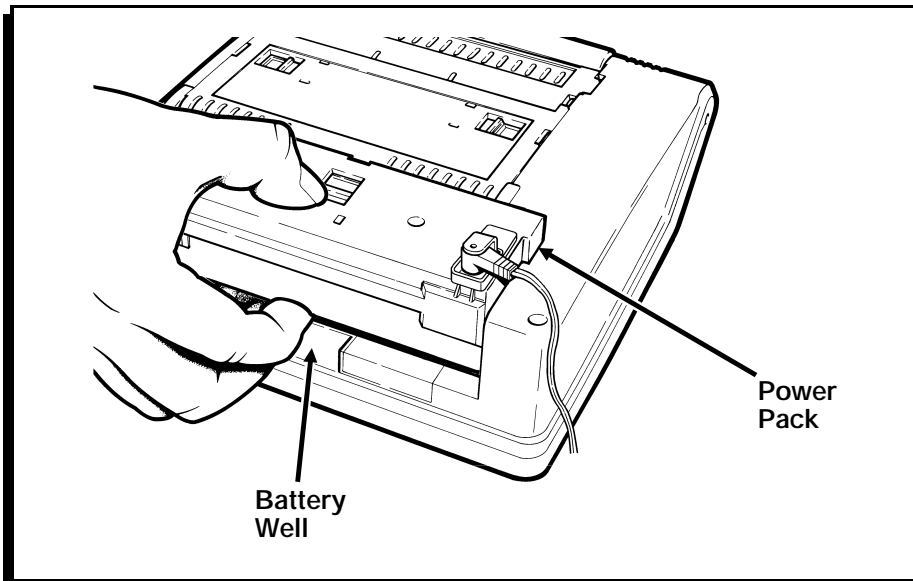

Figure 18
2. The power packs for the printers are attached to the Station's top shelf. Insert the tabs on the power pack into the slots of the battery well in the base of the printer. Push down until the latch snaps into place. (Figure 18.)